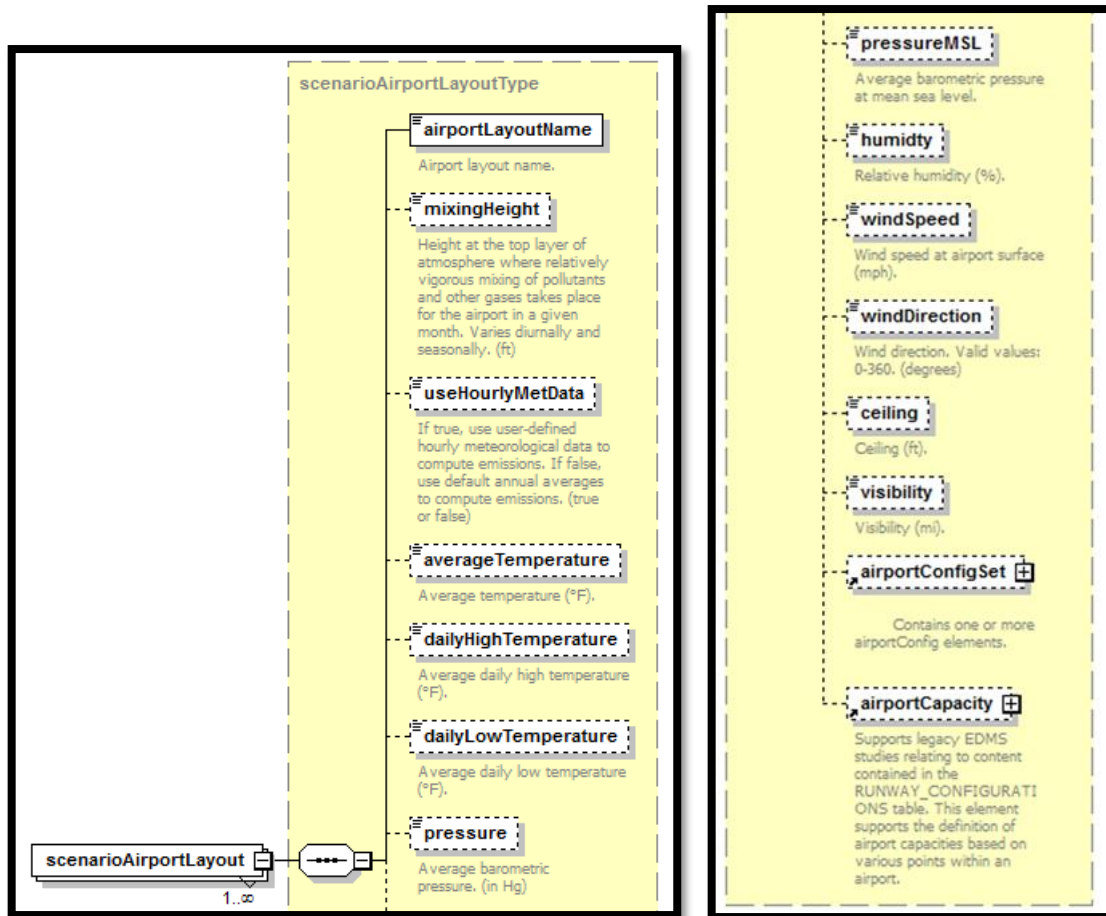

Figure 43- xml element `scenarioairportlayouttype`
2. AsifXml/study/airportLayoutSet/airportLayoutType (Figure 43):
The `scenarioAirportLayoutType` is a subset of the `airportLayoutType` (see Figure 43).